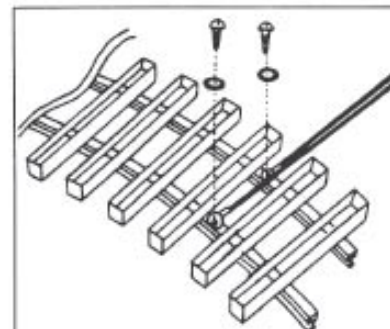

FIGURE 1
2. To power supply ... connect the round terminal of Track-to-Pack wire (ART-29600) to screw/washer located underneath each section of ARISTO-CRAFT TRAINS track (all style #'s). See FIGURE 1.